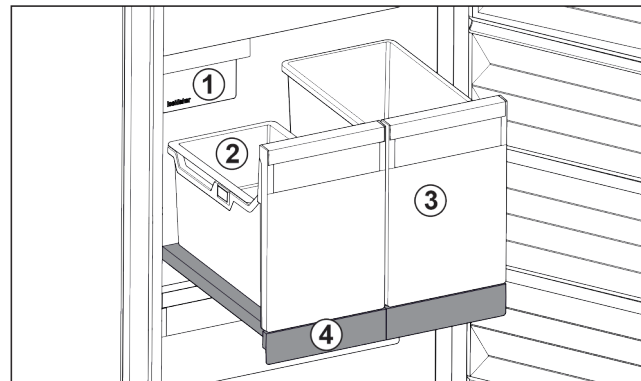

Fig. 92 Pull-out board with IceTower
On the pull-out board are two tall containers (IceTower). Ice cubes from the IceMaker are collected and stored in the container Fig. 92 (2). The container Fig. 92 (3) is suitable for storing tall foodstuffs or beverages such as pizzas or alcoholic drinks.